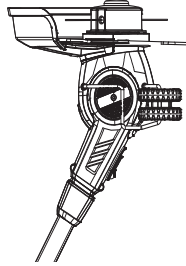

Fig. 2
2. Put the guard into buckle at side pointed to by black arrow in fig 2. (Fig. 2)